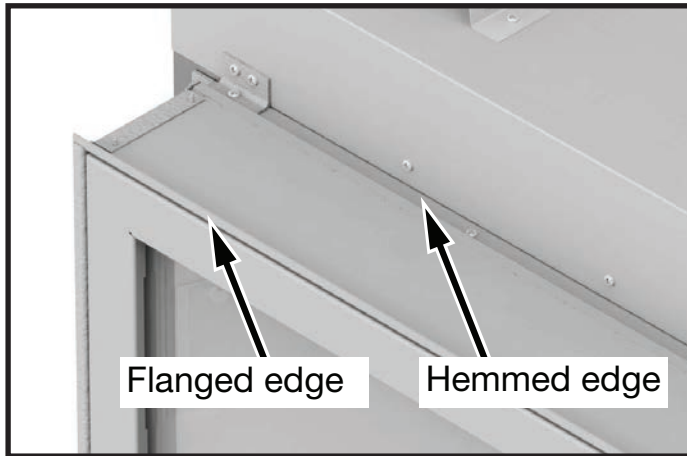

Figure 18: Optional lintel edge.
1. The fixed lintel has two orientations, a flanged edge and a hemmed edge (Figure 18). The lintel comes factory installed with the flange edge out. If the desired edge is different from the factory setting, use the following steps to change the lintel edge.